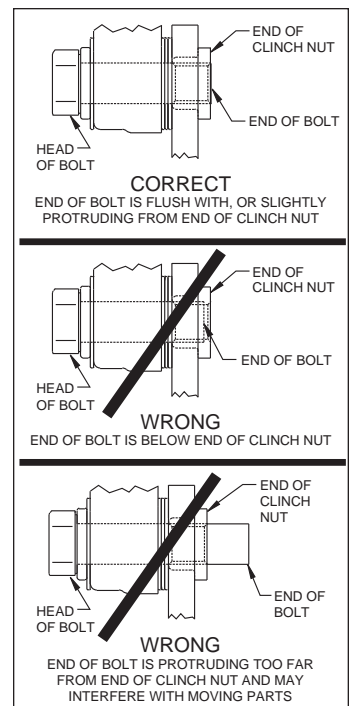

Figure 7. Clinch Nut Engagement Diagram
**Assembly Instructions** (numbers in parenthesis refer to the parts list, and Figure 3 on the preceding pages): **CAUTION:** All mounting bolts must fully engage clinch nuts. Be sure to check that all bolts are either flush or protruding through flanged side of clinch nut after shimming, Figure 7.
head of the clinch nut, as shown in Figure 7. If necessary place spare shims between washer (5) and caliper mounting ear to achieve the proper clinch nut engagement. Once the caliper alignment and clinch nut engagement are correct, remove the bolts one at a time, apply red *Loctite*® 271 to bolt threads, and torque to 40 ft-lb.